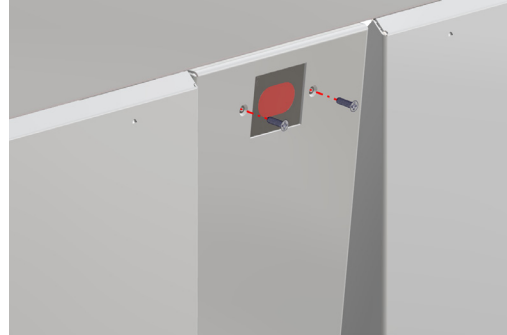

Fig. 5: Remove IR sensor from panel
3. From the front of the sink, unscrew the 2 flathead screws securing the IR sensors to the intermediate panels (Fig. 5). Set these aside for later use.